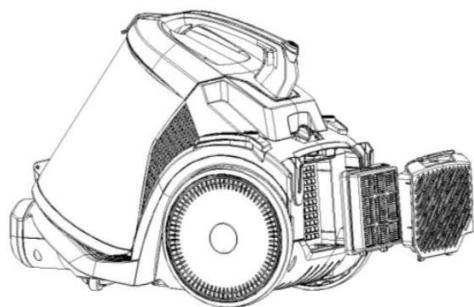

Fig.15
- 2) Fig.15 - unclip the outlet filter.